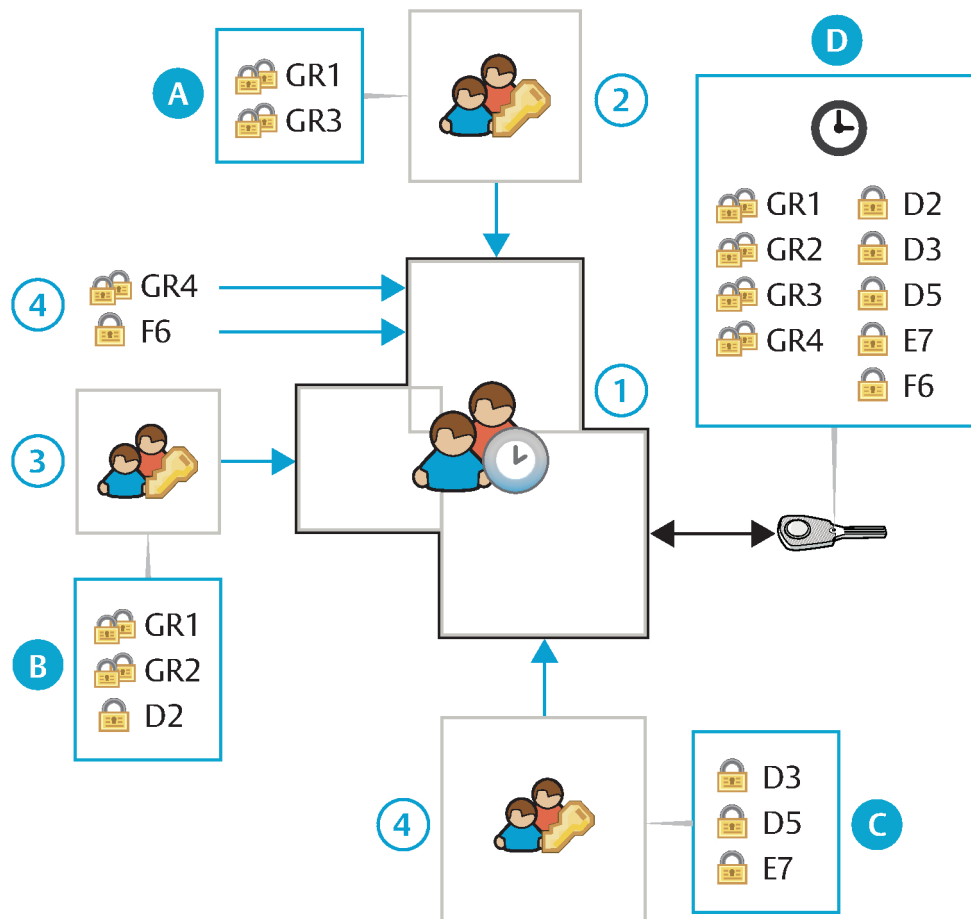

Figure 9. Temporary Access Groups
Figure 9 *“Temporary Access Groups”*, page 118 shows a key that is added to a temporary access group (1) with three access profiles (2, 3, 4) and one set of individual cylinders and cylinder groups (4). Each access profile has access to a number of cylinders or cylinder groups, or both (A, B, C). During a defined time period the key is granted access to all cylinders and cylinder groups (D).